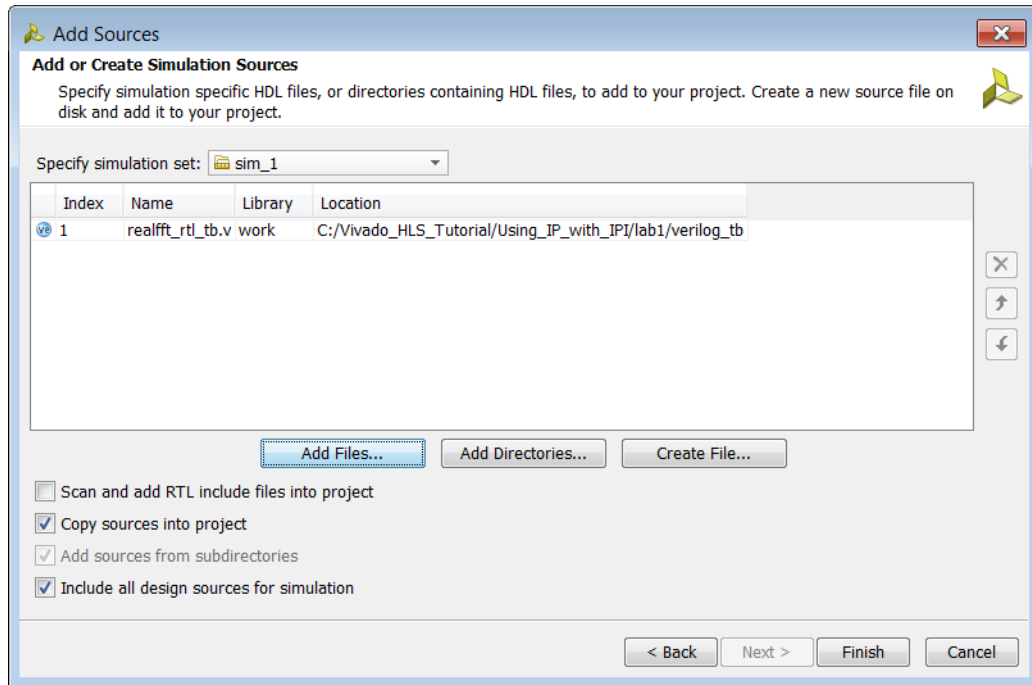

Figure 9-27: Copy Design Sources
8. Select the checkbox **Copy sources into the project** (Figure 9-27).